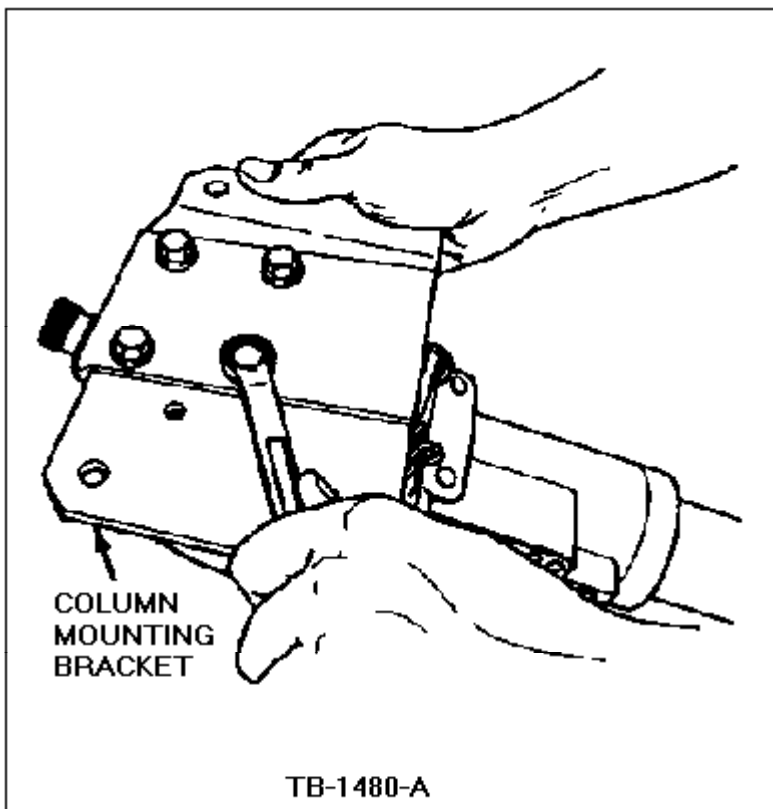

Figure 13 - Article 90-5-10
15. Remove the four (4) bolts that hold the column mounting bracket to the lower bearing housing, Figure 13.